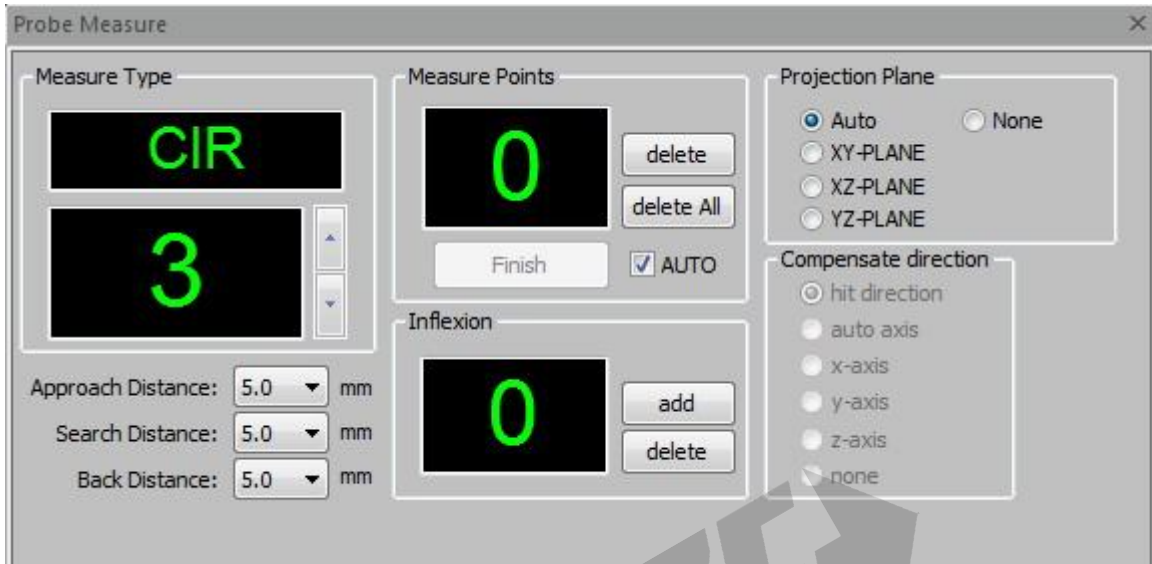

Fig. 4-29
2. Select “magnifying” order in the measuring method window, a red rectangle (Fig. 4-28) will appear in the image area, a sub-window will popup within the red rectangle at the same time (called magnified window shown as Fig. 4-29). The target element will be enlarged three times in a full screen.